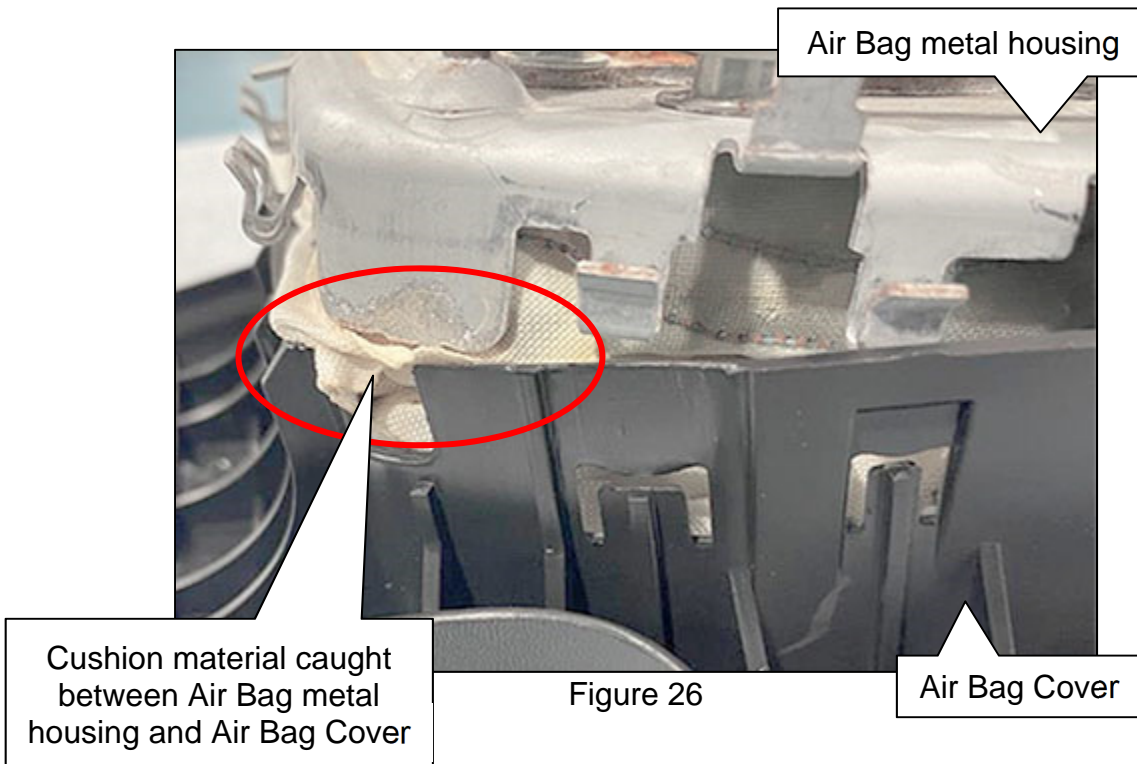

Figure 26
**IMPORTANT:** Verify that the cushion material is not caught between the Air Bag metal housing and the Air Bag Cover (Figure 26). If needed, push any cushion material back inside the Air Bag Cover.